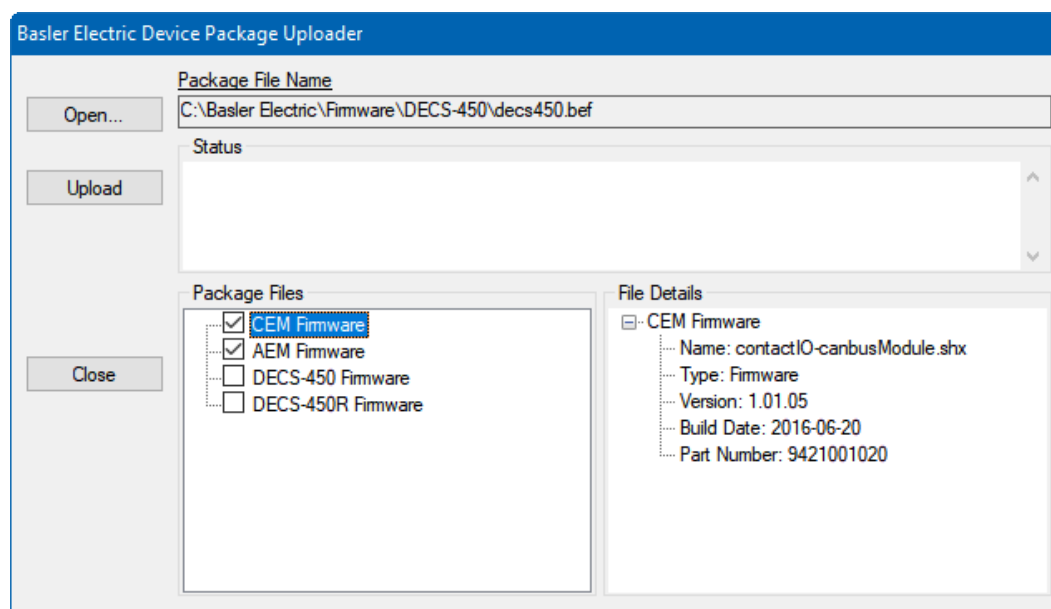

Figure 18-9. Basler Electric Device Package Uploader
8. When the Basler Electric Device Package Uploader screen (Figure 18-9) appears, click on the Open button to browse for the device package you have received from Basler Electric. The Package Files along with File Details are listed. Place a check in the boxes next to the individual files you want to upload.